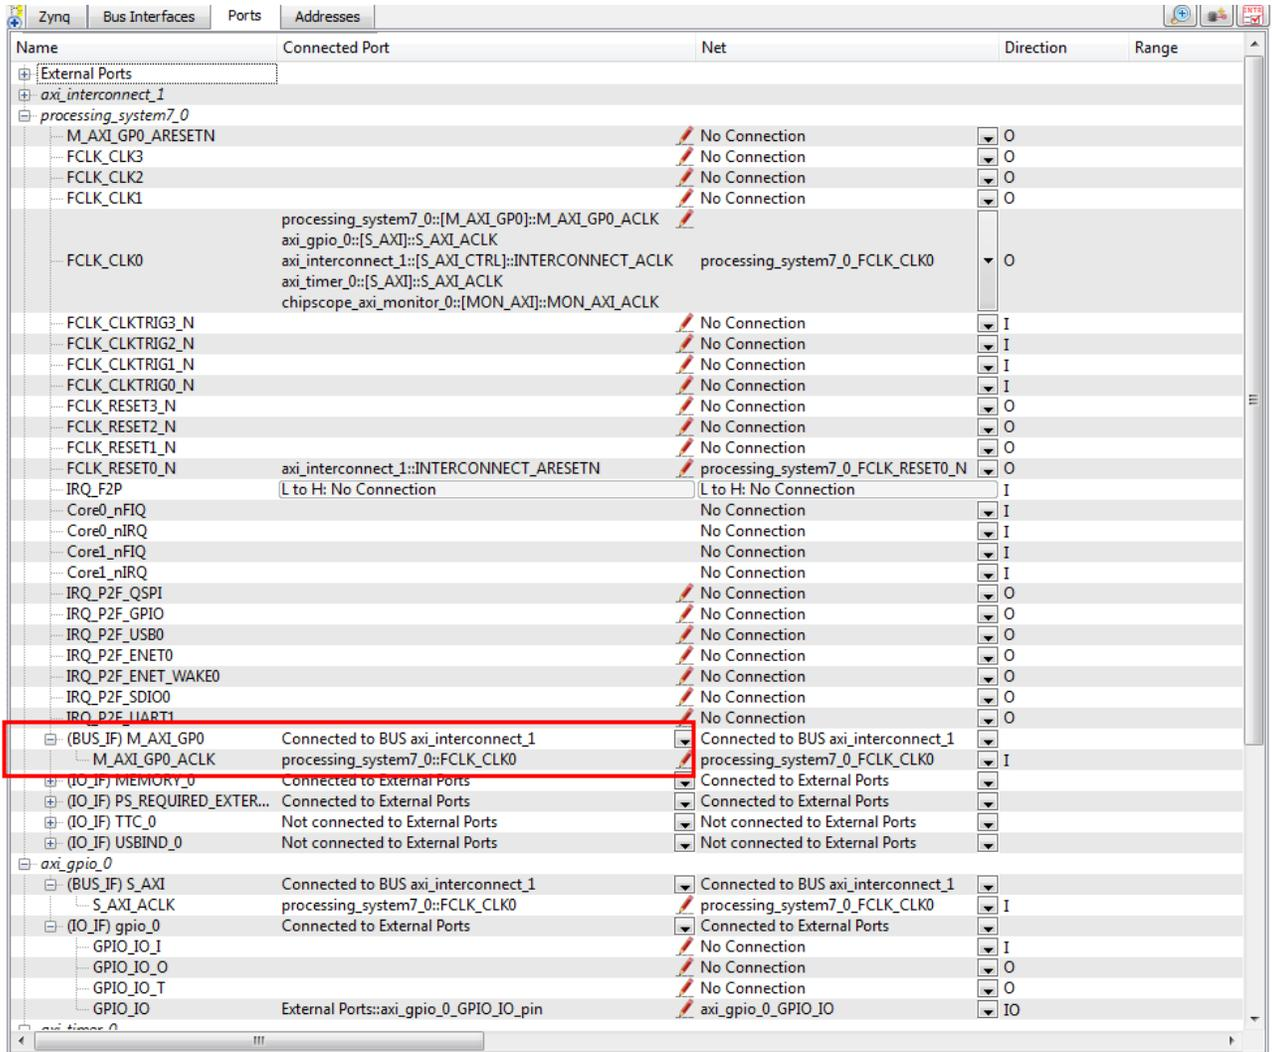

Figure 3-3:Processing_system7_0 Expanded and M_AXI_GPO_ACLK Connected
16. Collapse all IPs and expand processing_system7_0. If the following port connection is not made, do it now. It should look like Figure 3-3:Processing_system7_0 Expanded and M_AXI_GPO_ACLK Connected.